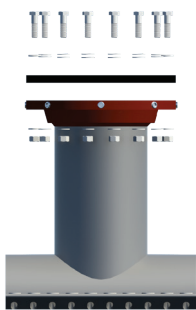

Figure C-2
**C.2)** Unbolt and remove the top flange of the valve body and store the O-ring, nuts, and bolts in a place they will be free from debris (see Figure C-2).